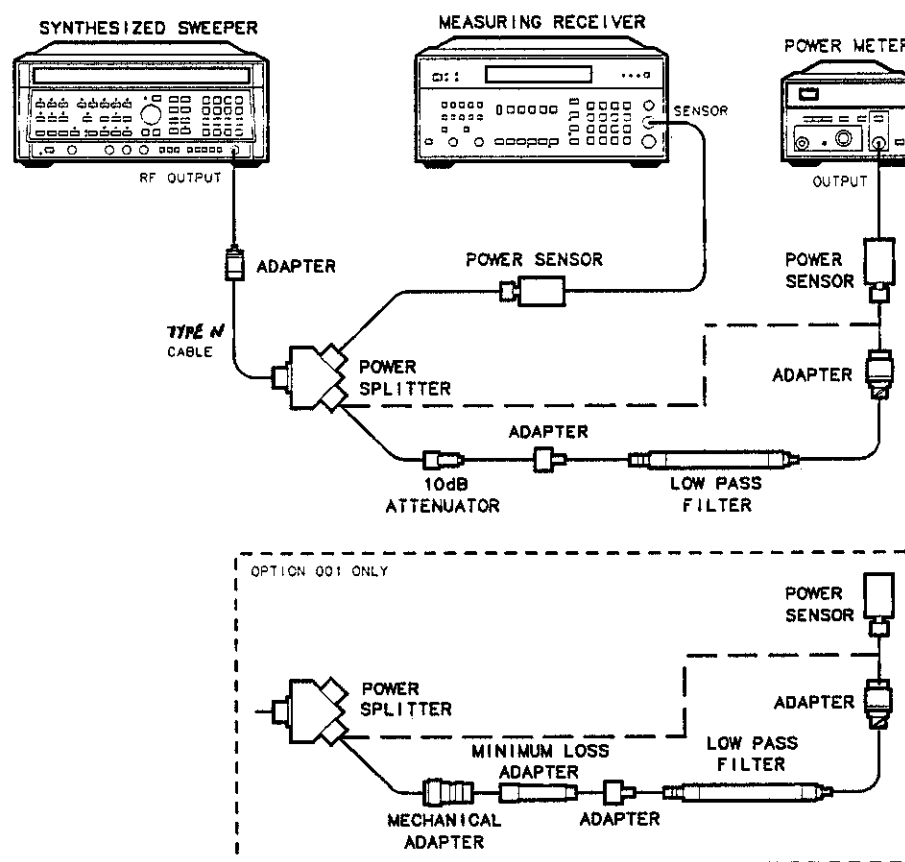

Figure 1-14. LPF Characterization
4. Connect the equipment as shown in Figure 1-14. Connect the low-power power sensor directly to the power splitter (bypass the LPF, attenuator, and adapters). Wait for the power sensor to settle before proceeding with the next step.
7. Connect the LPF, attenuator and adapters as shown in Figure 1-14.